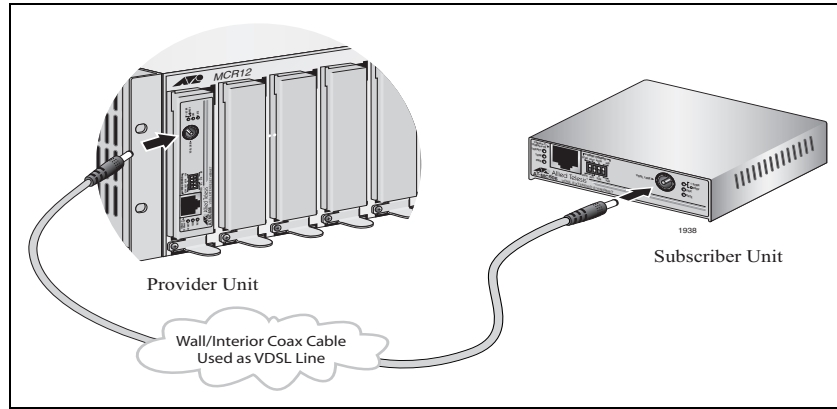

Figure 10. VDSL Line to Wall/Interior Coaxial Cable
2. Connect a coaxial cable from the VDSL Line port to the wall/interior coax cable, as shown in Figure 10, so that the Subscriber unit can communicate with the Provider unit.
2. Connect a coaxial cable from the VDSL Line port to the wall/interior coaxial cable, as shown in Figure 10 on page 36, so that the Provider unit can communicate with the Subscriber unit.